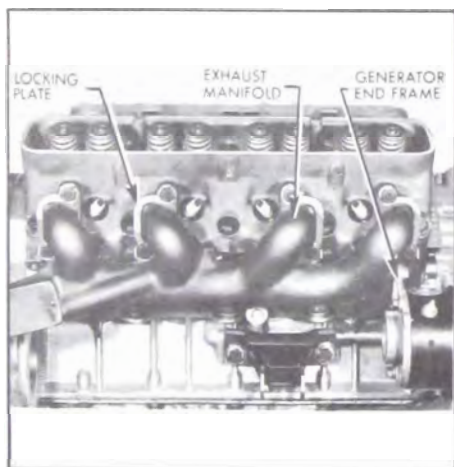

Figure 2-27—Exhaust Manifold Installation
3. Assemble exhaust manifold to cylinder head with bolts and locking plates as shown in Figure 2-27. Torque bolts to 10-15 ft. lbs.